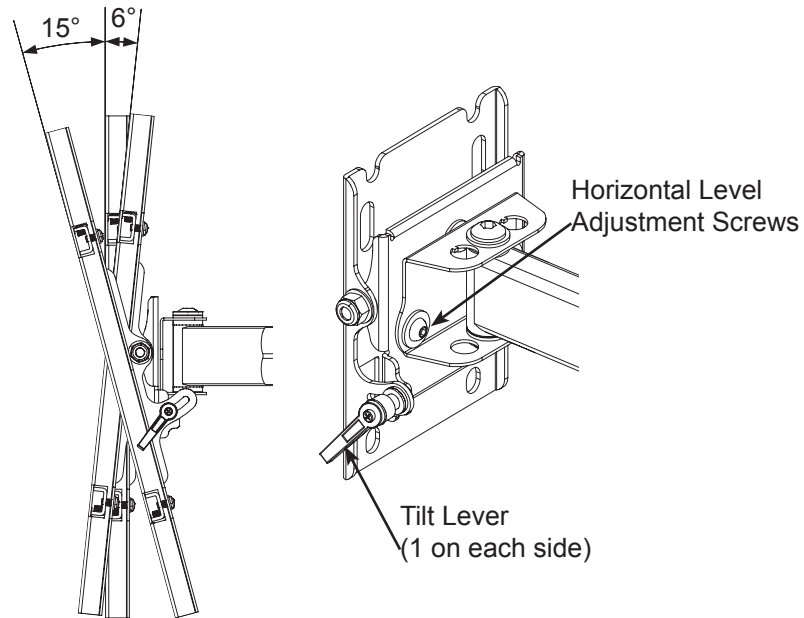
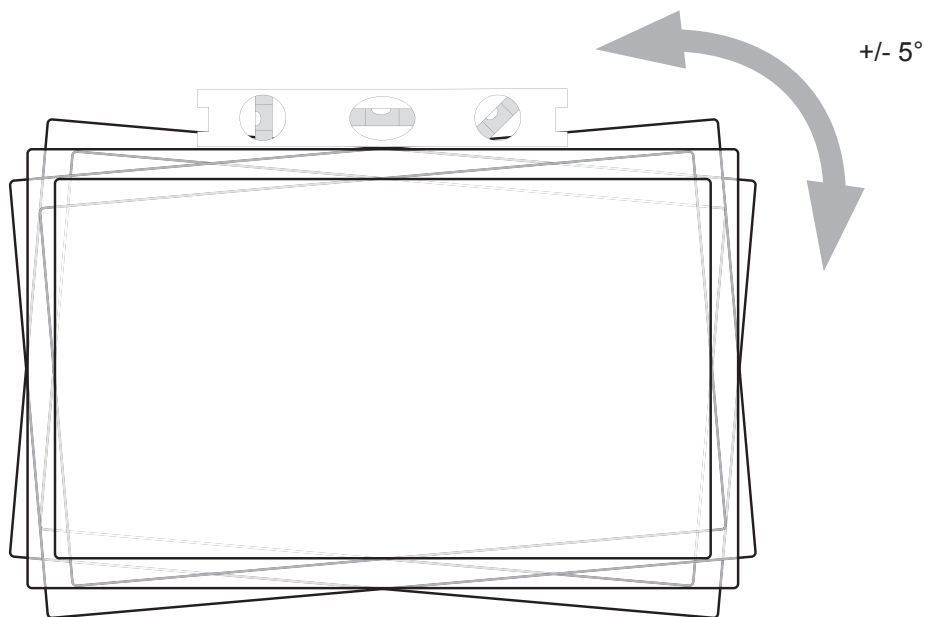

Figure 6
Figure 7
1. Loosen Tilt Levers on each side of mount head (only enough to allow controlled adjustment) (Figure 6).
1. To adjust the horizontal angle of the display, first slightly loosen the top two screws on back side of the Arm Assembly Head Mount using Allen Key. Then firmly hold opposite corners of the display and gently turn it into the desired position. When level, re-tighten screws to lock in position (Figure 6 and Figure 7).